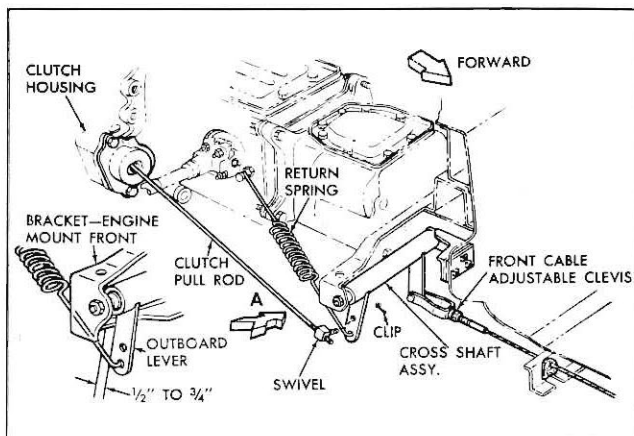

Fig. 1—Adjusting Corvaire Clutch Linkage
2. Adjust length of front control cable, at cross-shaft clevis, to obtain $\frac{1}{2}$ " to $\frac{3}{4}$ " spacing between cross-shaft pull rod lever and edge of transmission mounting bracket. (Fig. 1).